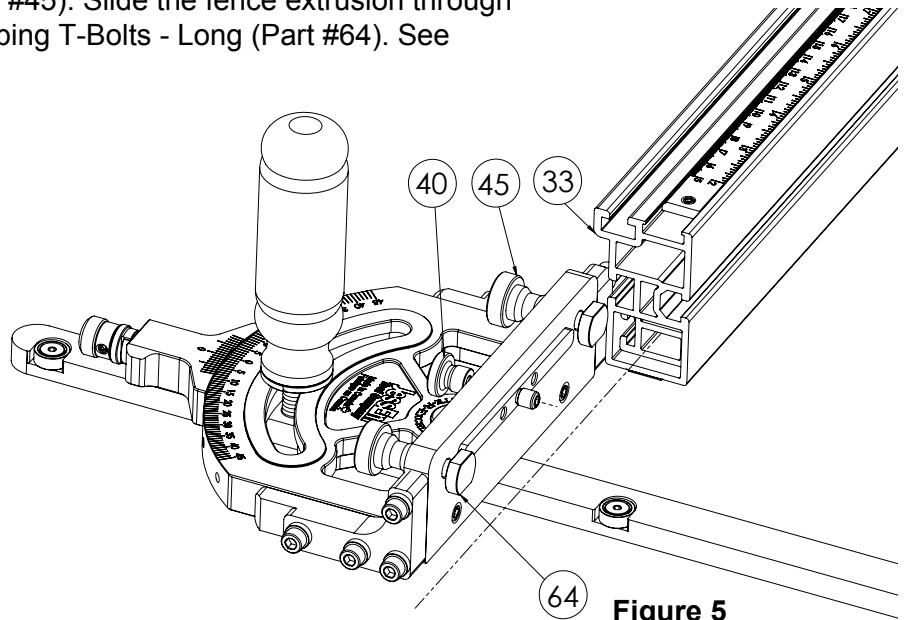

Figure 5
- a. Pull the Fence Locating Pin Knob (Part # 40) back and loosen both Fence Knobs (Part #45). Slide the fence extrusion through both of the Fence Clamping T-Bolts - Long (Part #64). See **Figure 5**.